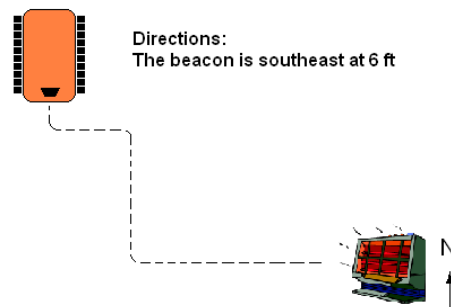

Figure 2: Robot homing
5. Based upon the above model, write code to home the Traxster robot to the heat source (see Figure 2). The robot should come within one foot of the beacon without touching it.